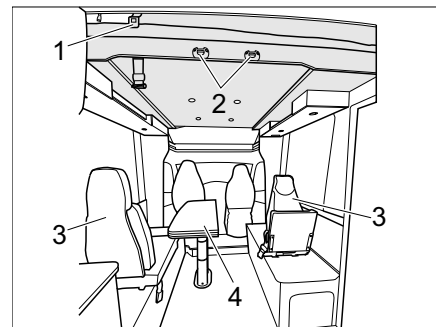

Fig. 166 Electrical pull-down bed (variant 3)
- Hook the access ladder to the pull-down bed by attaching both brackets into the U-bolts (Fig. 166,2).
- Lower the lowerable 2-legged folding table (Fig. 166,4) (see section 7.8.8).
- Remove 2 individual seats (Fig. 166,3) and stow them.